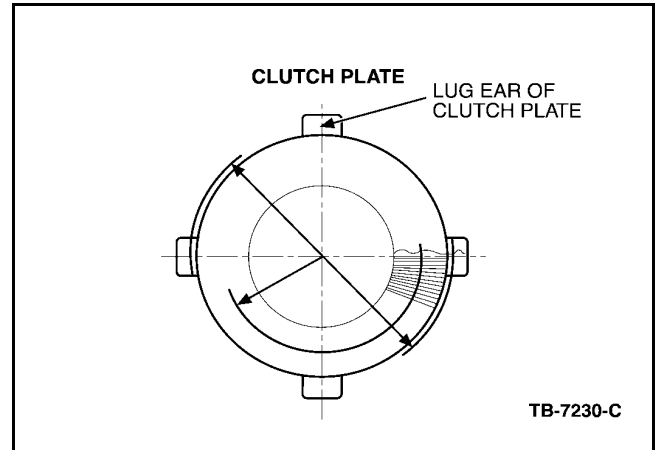

Figure 3 - Article 04-16-4
3. Make sure the clutch plate lugs (Figure 3) enter the slots in the case. Also make sure the clutch pack bottoms out on the case.